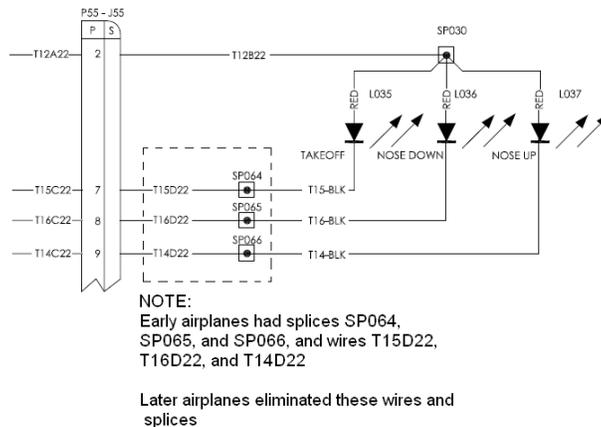

Figure 31-19 Trim Indicator Schematic
6. If there was a splice on the black wire before, connect the black wire to its associated white wire using an appropriately numbered splice. If the black wire connected directly to the connector shell for J55, mount a connector pin to the black wire and insert the pin into the correct hole in J55. See Figure 31-19 for more information. See Chapter 20 – *Standard Practices* for wire splicing procedures and requirements.